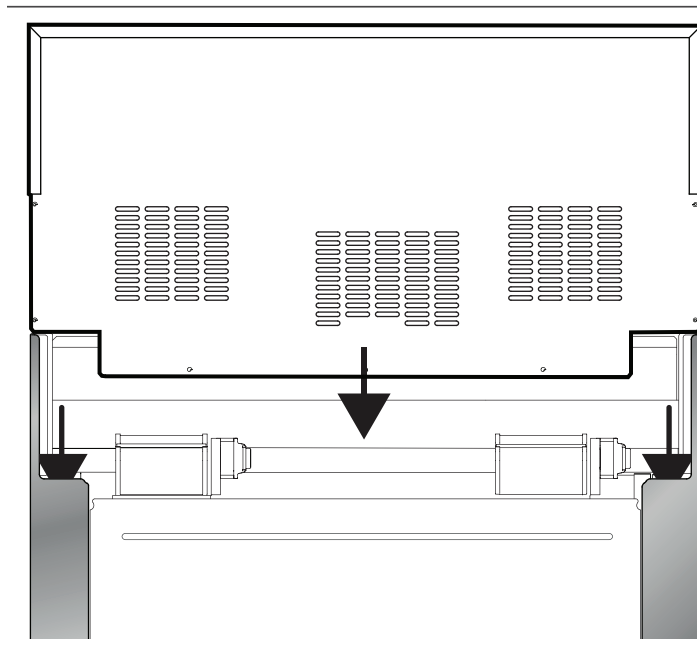

Figure 17: Backguard Installation
- Align the back panel of the new accessory with the flanges on the range side panels right and left rear corners. The backguard is inserted inside the guide channels on the back of the range (*Figure 17*).